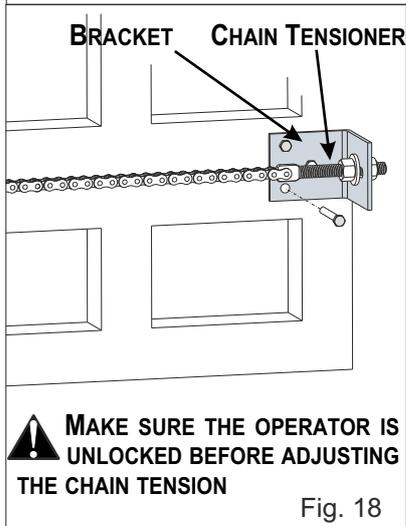

Fig. 18
8.1. Secure two sturdy brackets at the two extremities of the gate for attaching the chain (Fig. 18)
8.2. Install a chain tensioners on each bracket in order to regulate the chain tension (Fig. 18)